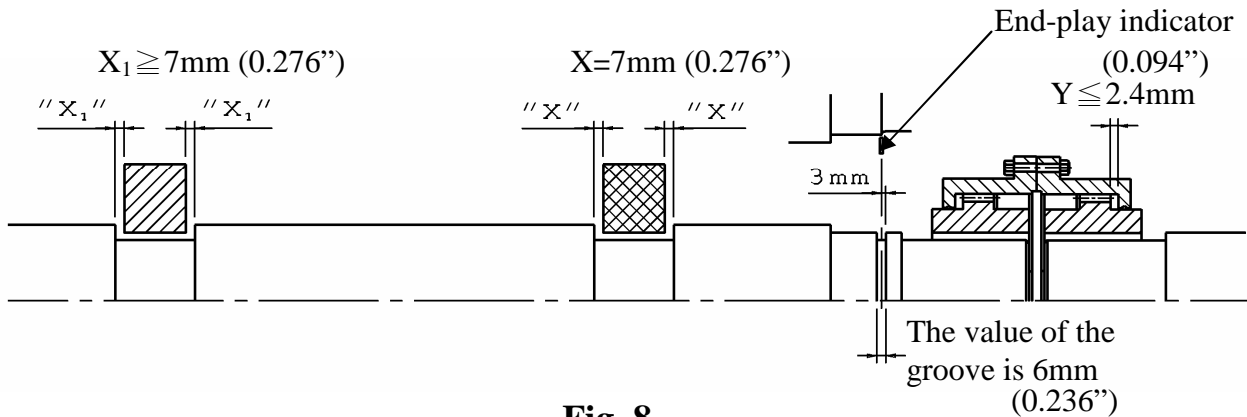

Fig. 8
- Unless otherwise specified, the designed end-play value X of the groove for TECO motors in general is within 7mm (0.276 inches) as illustrated in Fig. 8. In essence, the end-play indicator is adjusted to point at the center of the groove or the drive-end shaft shoulder; thus X equals to $7 \pm 1\text{mm}$ (0.276 ± 0.039 inches) or so, and the end-play value (Y) of the couplings should equal or be smaller than 2.4mm (0.094 inches).